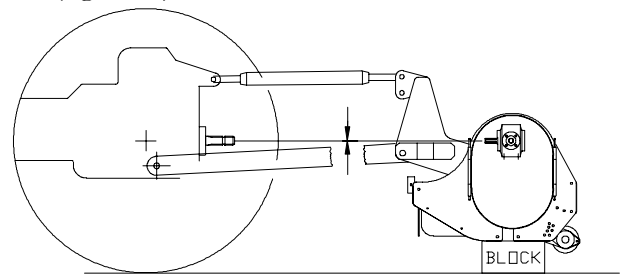

Figure 12
3. Raise shredder until the gearbox input shaft is level with the tractor PTO shaft. Position blocks under the shredder to stabilize (figure 12).